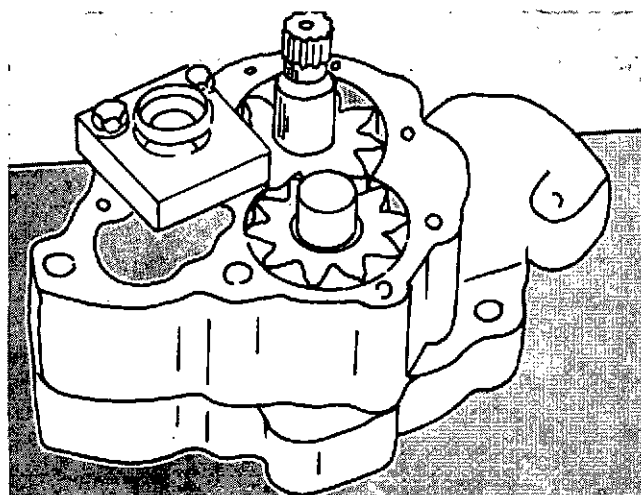

Fig. 7-10. Position The Assembly Into The Locating Plate.
- d. Make sure the prongs of the disc are down and the lip of the seat is up when you install the bypass spring, washer, disc into the locating plate, Fig. 7-10.